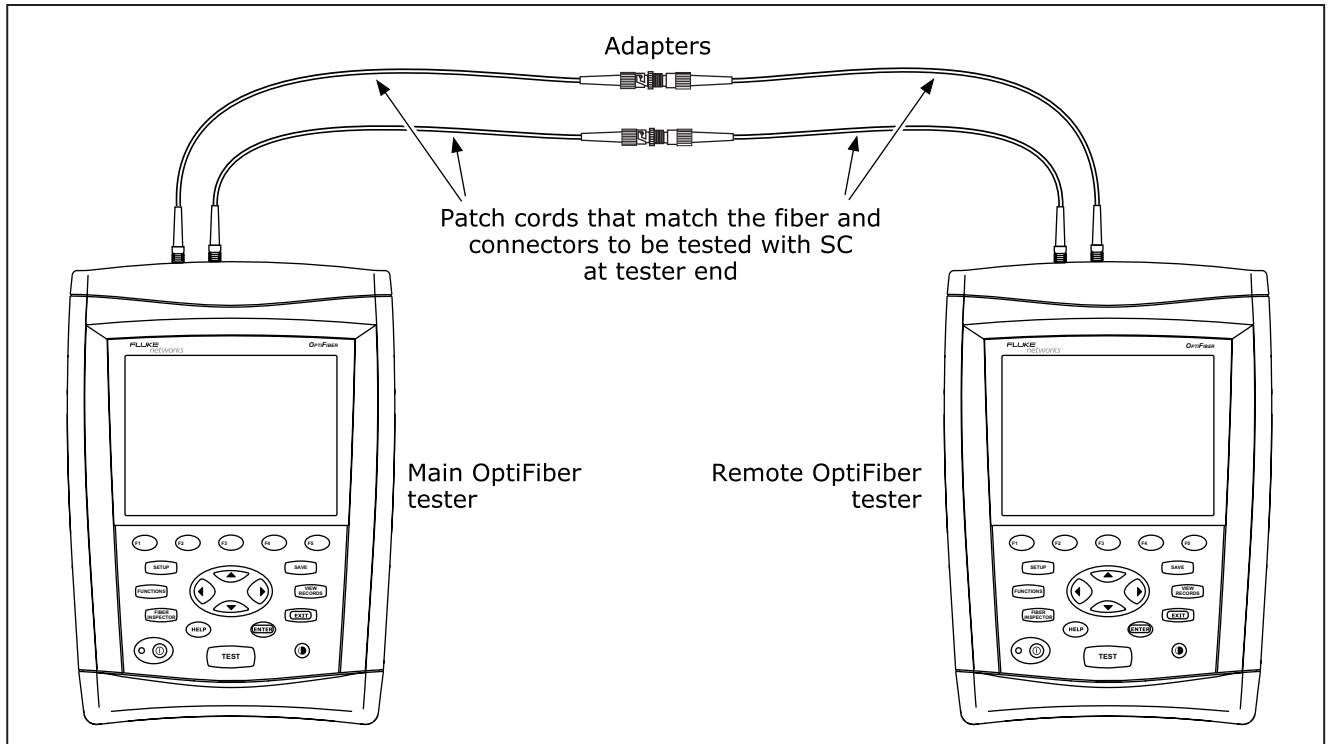

Figure 2-2. Smart Remote Mode Reference Connections
- 4-3. Connect the main and remote testers as shown on the **SET REFERENCE** screen and in Figure 2-2; then press .